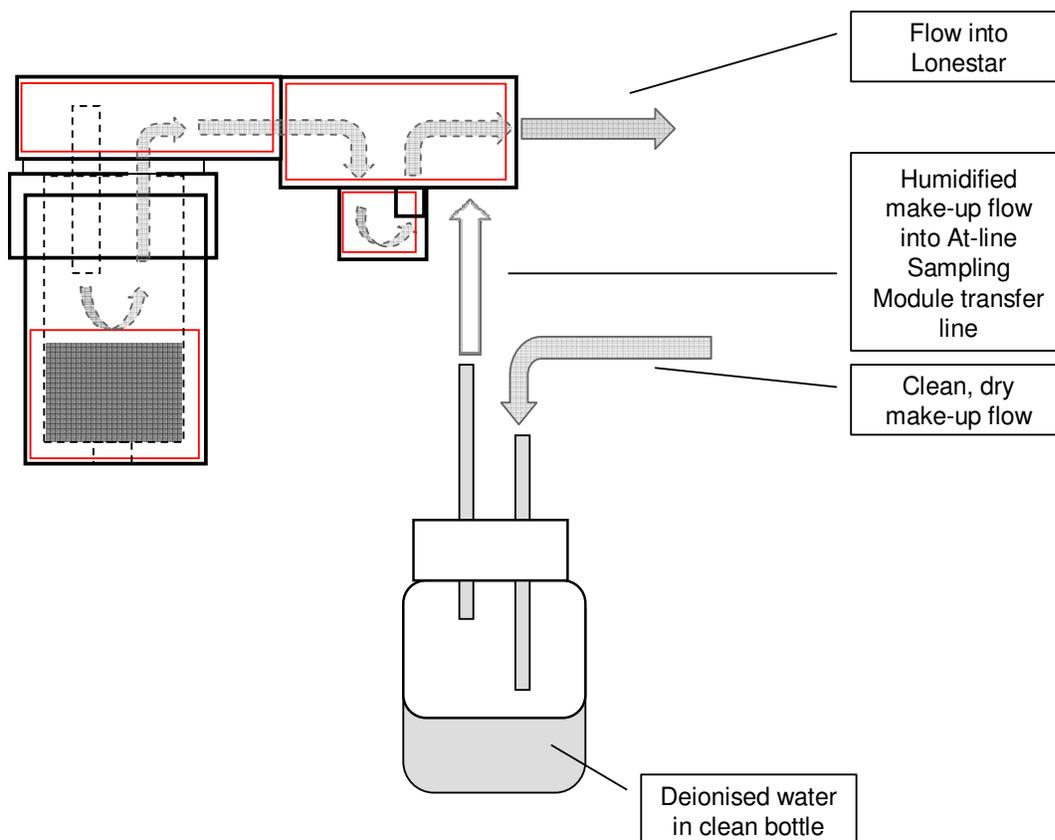

Figure 23: Humidifying make-up flow by passing it through water headspace
- Another way of humidifying the make-up flow is to pass the flow through the headspace of a vessel containing deionised water. See Figure 23 for an illustration of this. The final humidity of the air flow will depend on several factors, including the air flow rate and the temperature of the water.